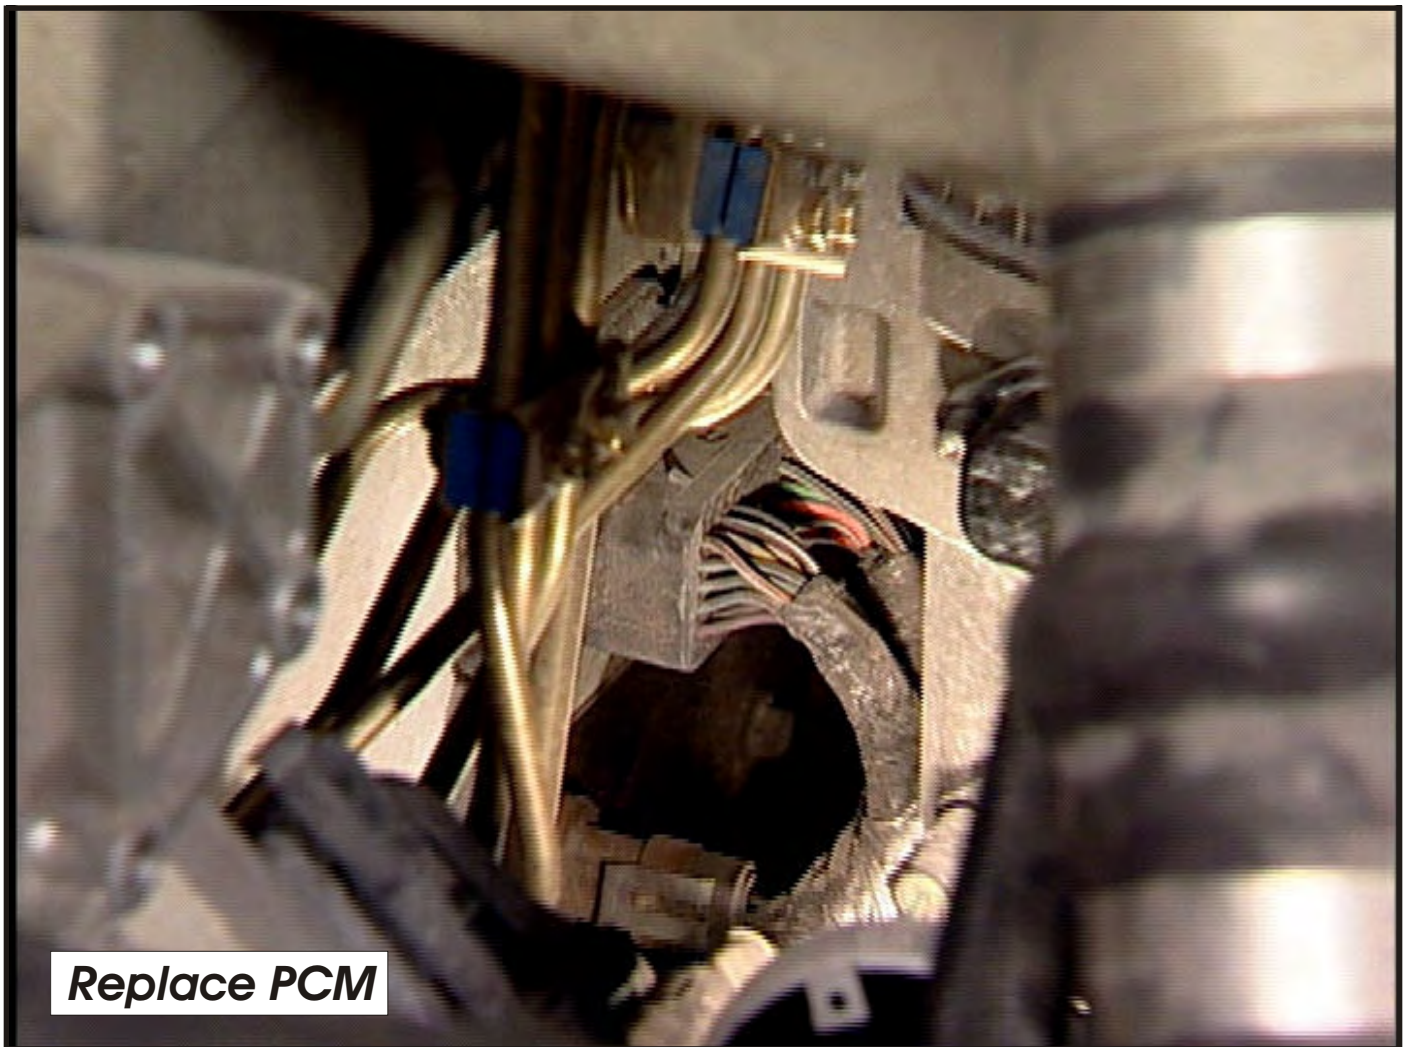

Figure 7
- (4) Replace Cummins ECM (Figure 7).